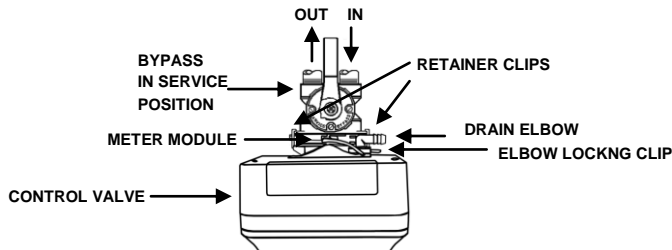

FIGURE 2: Top View of Control Valve
STEP 2: Use clips and screws provided and attach bypass valve to the inlet/outlet of the control valve. See Figure 2 below.